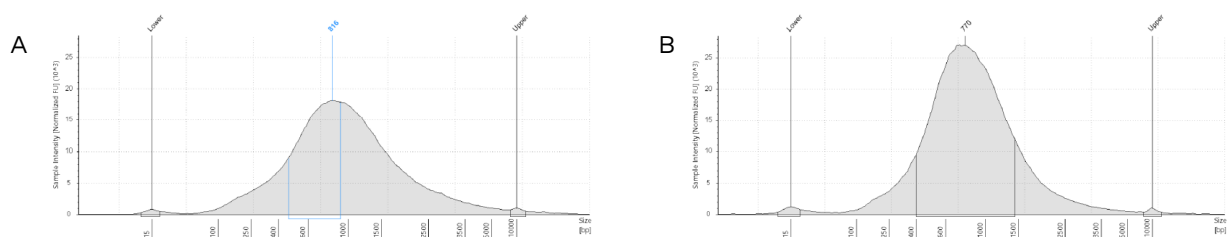

Figure 2: Library traces using cDNA from control RNA (A) and Single cell (B).
The quantified libraries were in the range of 50ng/µl for both control RNA the single cells. Fig 2 demonstrates the Library traces from control cDNA (A) and single cell cDNA (B).